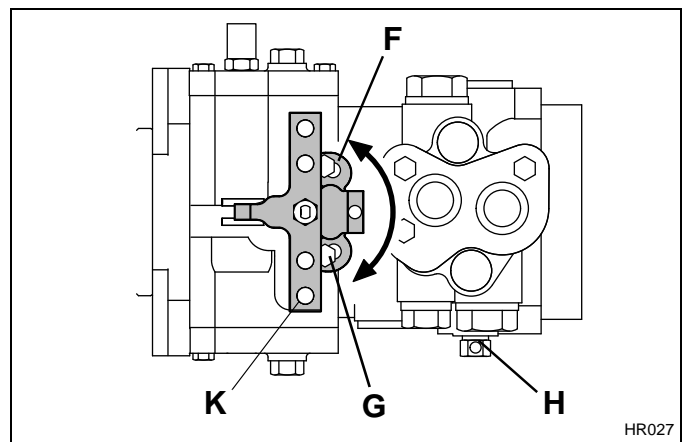

Figure 3H
1. Make sure return arm (**K-Figure 3H**) on pump is adjusted to neutral, **Section 3.7**.